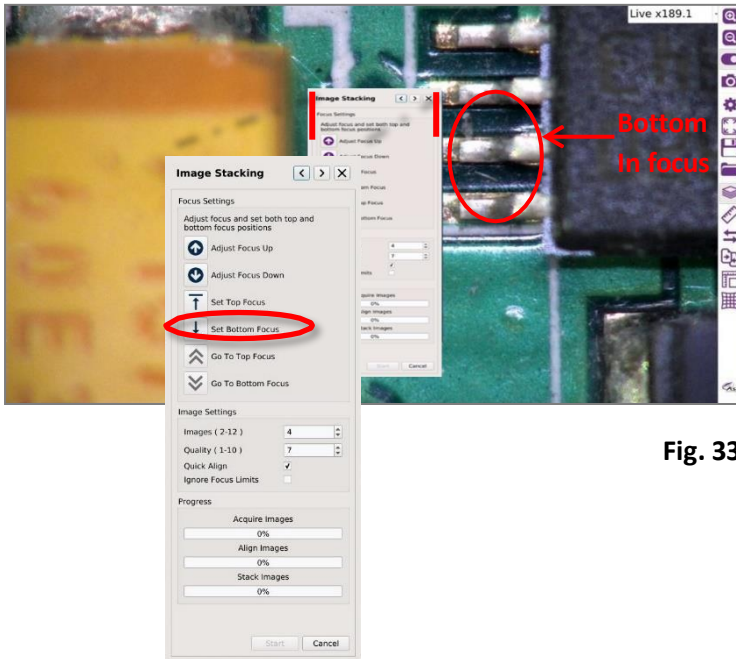

Fig. 33
2. Manually adjust the height of the camera until the bottom of the image is in focus (Fig. 33). This is done by using the height adjustment mechanism on the stand the **OMNI 3** is mounted on. Click Set Bottom Focus and the Go To Bottom Focus button will become active.